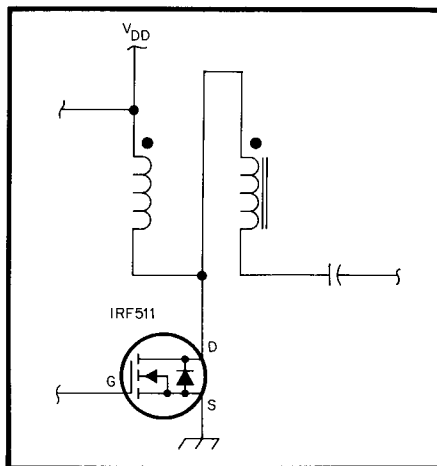

Fig 5—Correct connection for the transformer.
□ There's an error in Fig 3 of "Stable HEXFET RF Power Amplifiers," Technical Correspondence, *QST*, Nov 1989, p 39. As shown, the transformer acts as a step-up circuit, presenting an impedance of 200Ω to the FET. To present the required $12.5\text{-}\Omega$ load to the FET, the transformer should be connected as shown here in Fig 5.—*Tnx to Joseph C. Pinckney, WB2VNM*